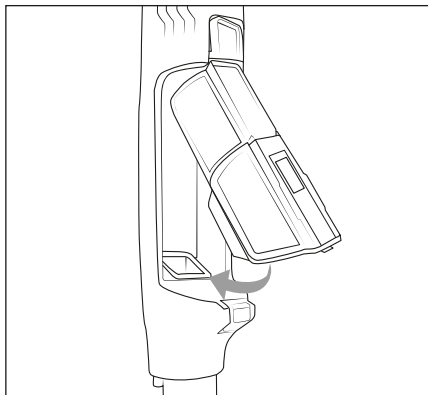

Fig. 21
- 8) First insert the HEPA filter holder ⑤ and then the dust container ⑦ into the appliance (see Fig. 21). Make sure that the dust container ⑦ clicks into place in the appliance.